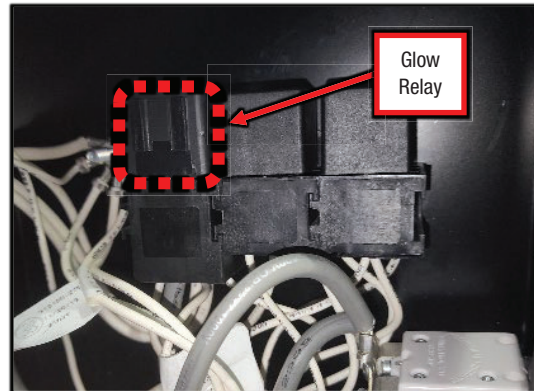

Figure F.2
- A.2. Label and disconnect the Glow Relay from its socket, refer to Figure F.2.